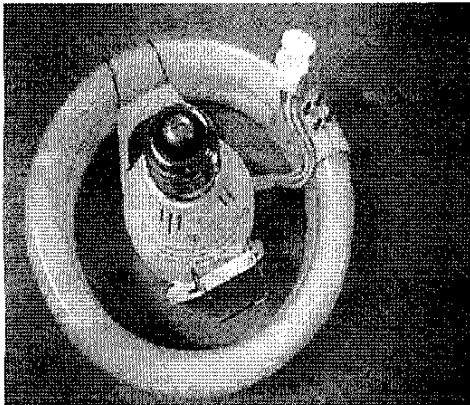

FIG.2
2.Gently place the electronic adapter and plastic(or metals) arm assembly on to the circular lamp,such that the plastic(or metals) arm is perpendicular(at right angle) to the 4 pins on the circular lamp.(as shown in fig.2)